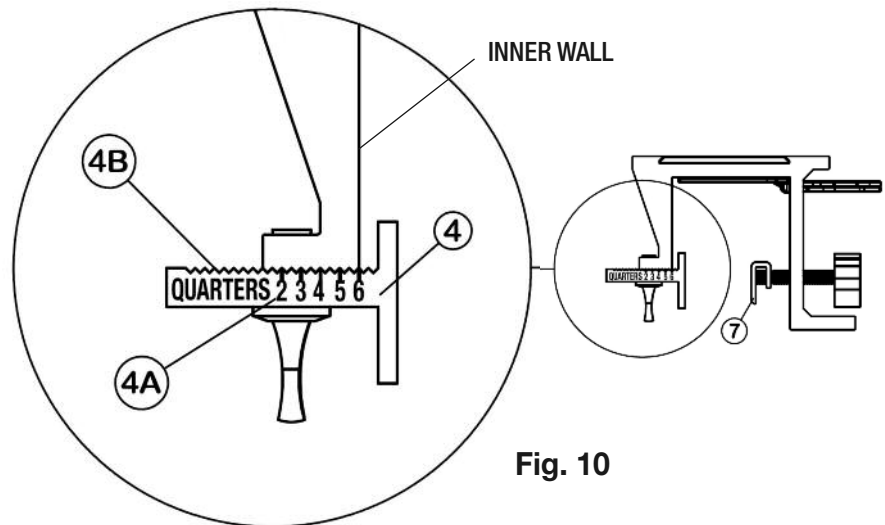

Fig. 10
- Centering the stock in the jig is accomplished by adjusting the *Centering Wall* [4] (Fig. 10) for the thickness of the stock.